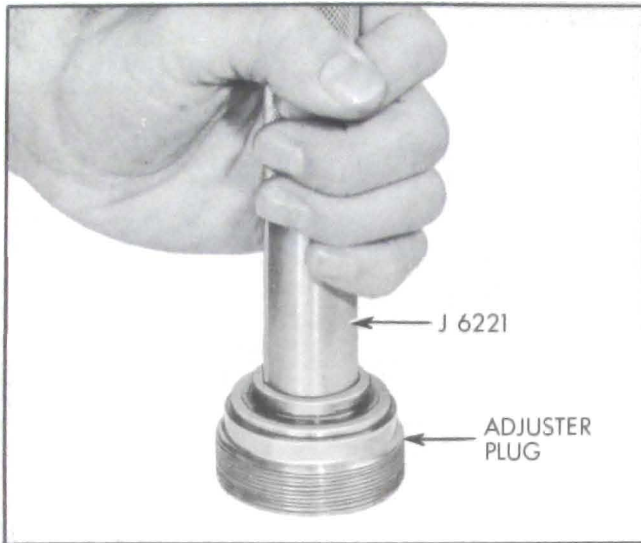

Figure 8-40—Removing Adjuster Plug Needle Bearing
5. Inspect needle bearing in adjuster plug and if rollers are broken or pitted, remove needle bearing by pressing from thrust bearing end using Tool J-6221 and discard bearing. See Figure 8-40.